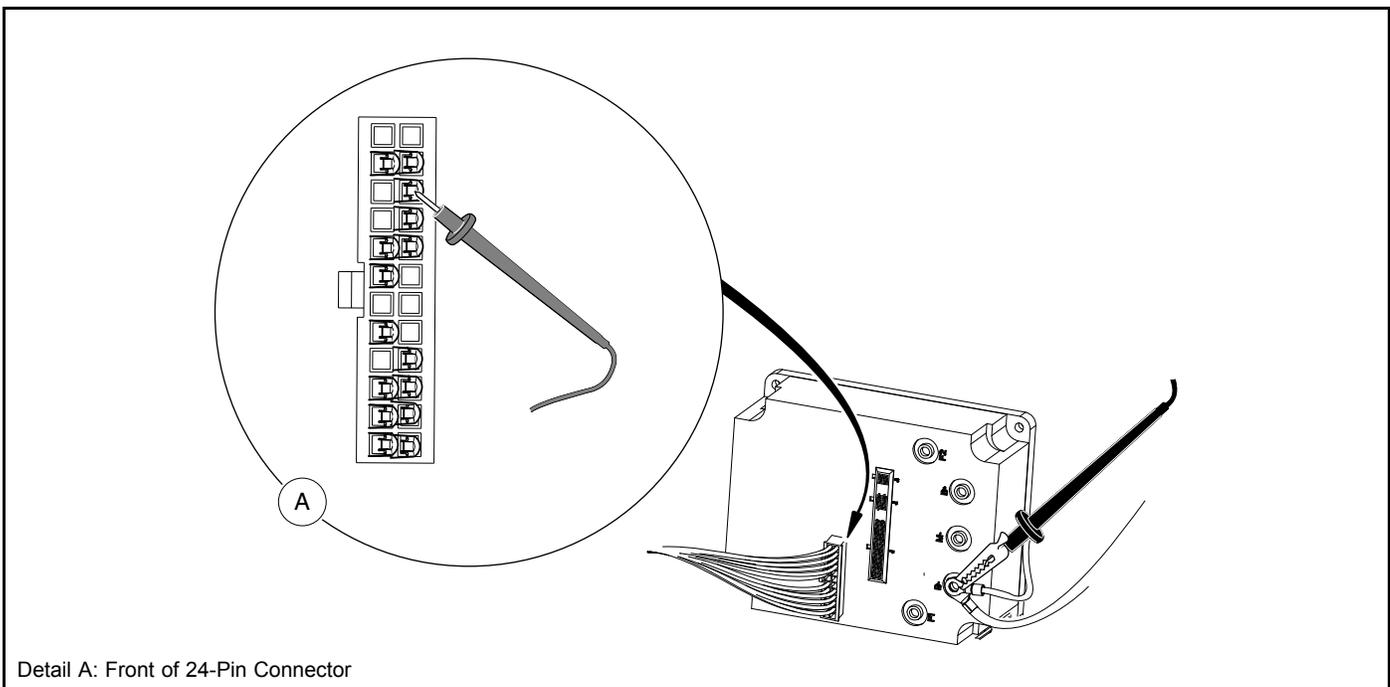

Figure 22-16 Test: Pin 10 (Black Wires)
4. Set a multimeter to 200 volts DC, insert the red (+) probe of the multimeter into pin 10 (brown wire) of the 24-pin connector. **See following CAUTION.** Using an alligator clip, connect the black (–) probe to the B– terminal of the speed controller (**Figure 22-16, Page 22-26**).